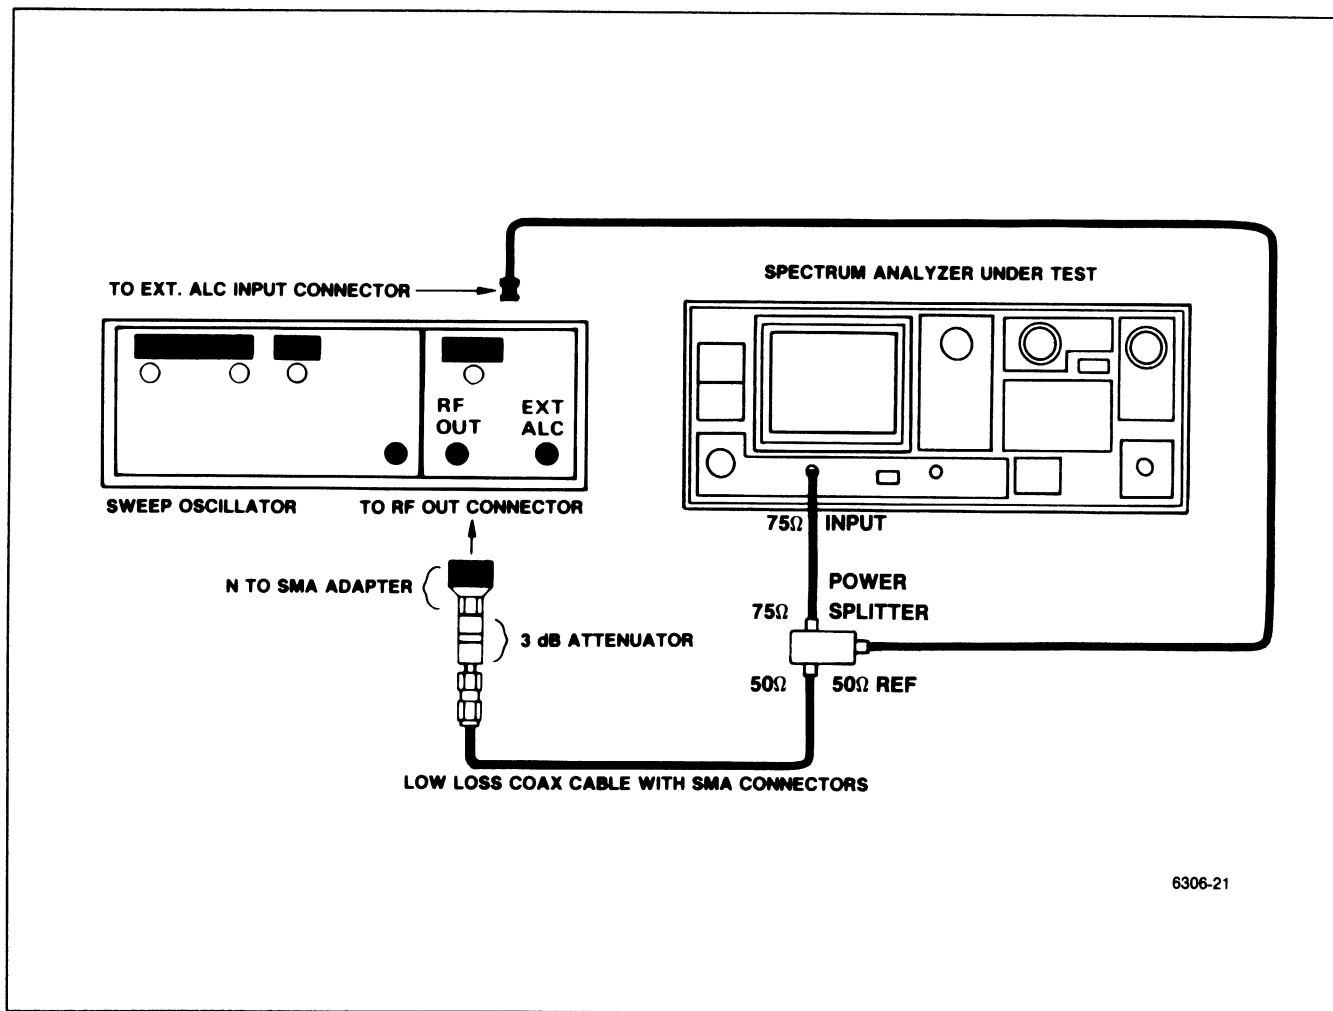

Figure 4-22. Test equipment setup for measuring 0.01 GHz to 1.8 GHz frequency response.
a. Connect the test equipment as shown in Figure 4-22.